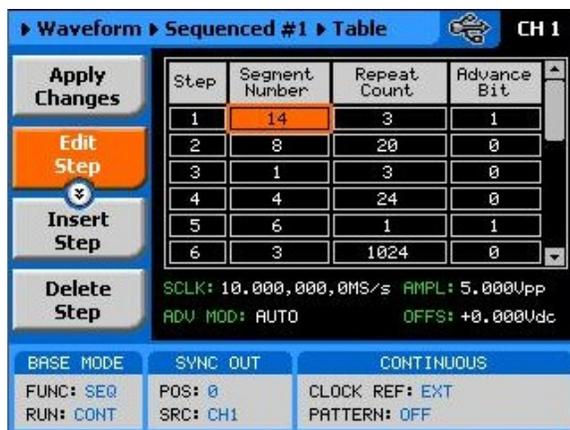

Figure 3-51, Editing the Sequence Table
If you select the View option as was described above, the sequence table will display as shown in Figure 3-51. If you already have a sequence table in place, you can edit the steps and modify the table per your new requirements. If you do not have a sequence table, you can construct the table from this screen however, you must make sure first that the segments you intend to use are loaded with waveforms.
Observe Figure 3-51 and note the commands that are available for editing and creating a sequence table.
**The operating mode of the instrument, as selected from the Run Modes menu, affects the way that the PM8572A lets you access the sequence advance mode parameter. If you are in continuous mode, as shown in Figure 3-51, you can select one of: AUTO, STEP, or MIXED. If you already selected the triggered run mode, you'll be able to select from AUTO, or SINGLE only as advance modes.**